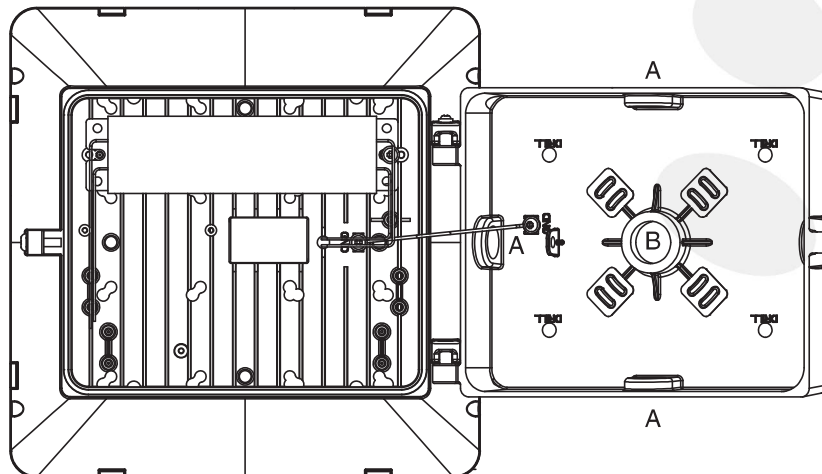

FIGURE 1
- Remove 1/2" plug in center (B) for wiring. The fixture supports standard 3 1/4" & 4" junction box.
- Mounting of fixture can be achieved by one of the methods below (see figure 1):
- Install the fixture on the wall making sure to use the provided junction box gasket to protect from water. Fixture should be oriented as shown in pictures at the top of this instruction page. FIGURE 1